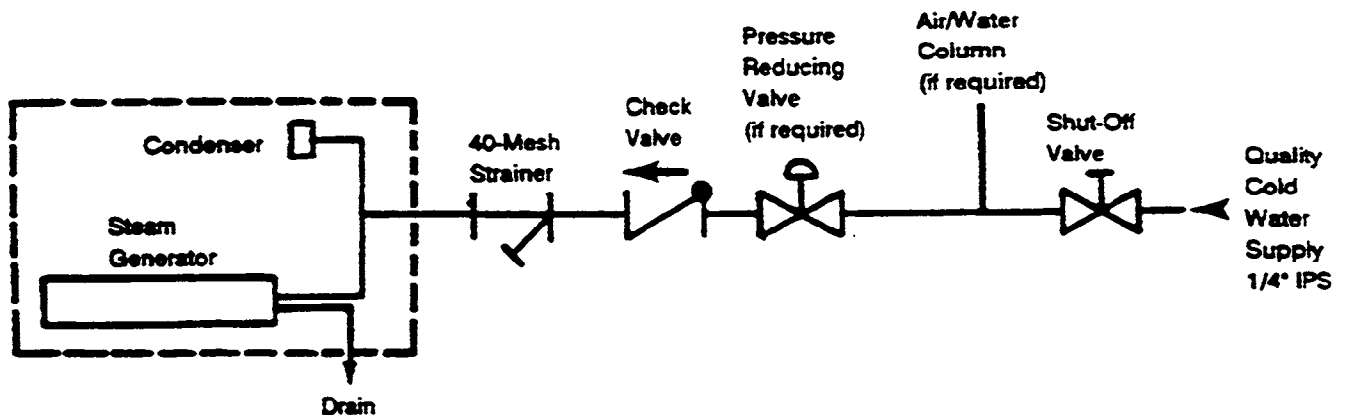

Figure 2-13. Single Water Connection
Furnishing and plumbing the water supply lines is the responsibility of the owner and/or installer. Figures 2-13, 2-14, and 2-15 illustrate plumbing layouts recommended by Cleveland Range. When installing water supply lines, observe the following instructions.
5. When a water treatment system is not installed, Cleveland Range recommends the plumbing layout illustrated in Figure 2-13.
1. Refer to Figure 2-13.